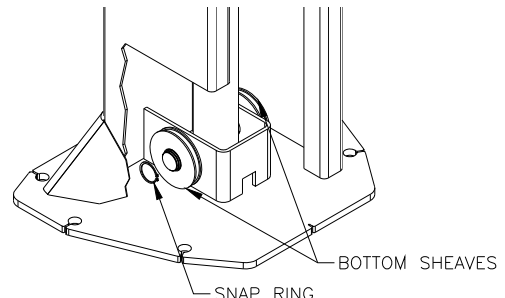

Fig 6-Lower Sheaves
- 16) To install the cables around the bottom sheaves, remove the snap rings holding the sheave in place and disassemble, **Fig 6**.